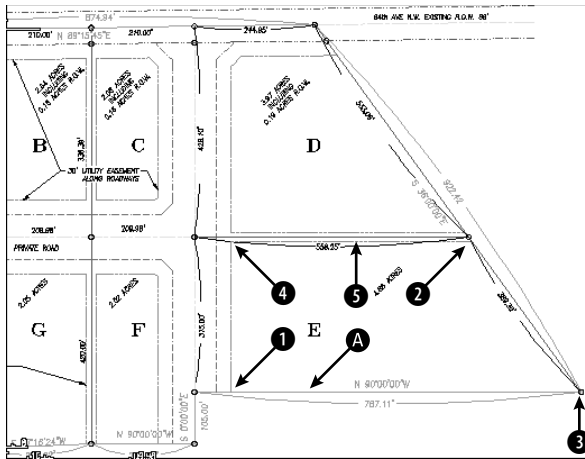
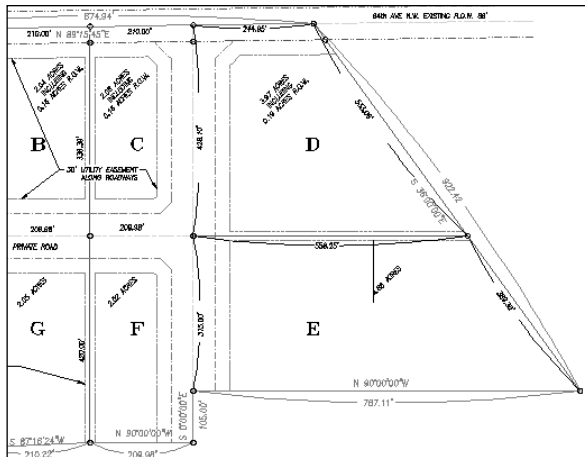

Figure 12-17: Parcels D and E in the civil engineering drawing.
Figure 12-18: You can use the QUICKCALC command to calculate the intersection of two lines without drawing the lines.
3. If you did not do the previous exercise, use ZOOM Window to zoom in on the parcels labeled D and E, as shown in Figure 12-17.
5.  In the exercise on the DIVIDE command earlier in this chapter, you divided a line into three segments by placing two points on the line. To calculate the length of those segments, open QuickCalc. From the Variables section, choose the `dist` function and click the Return Variable to Input Area button. You see the expression `dist(end,end)` in the Input area. Click at the end of the expression and type `/3 ↵`. In your drawing, the command line prompts you for the two endpoints. Pick the two ends of the line at **A** in Figure 12-17. QuickCalc calculates 262.37.
8.  Click the Intersection of Two Lines Defined by Four Points button. Pick the endpoints in Figure 12-17 at **1** and **2** to define the first line, and then at **3** and **4** to define the second line. Click the Apply button. AutoCAD starts the line at the intersection of the two lines. At the Specify next point or [Undo]: prompt, choose the Perpendicular object snap and pick **5**. End the LINE command. Figure 12-18 shows the result.